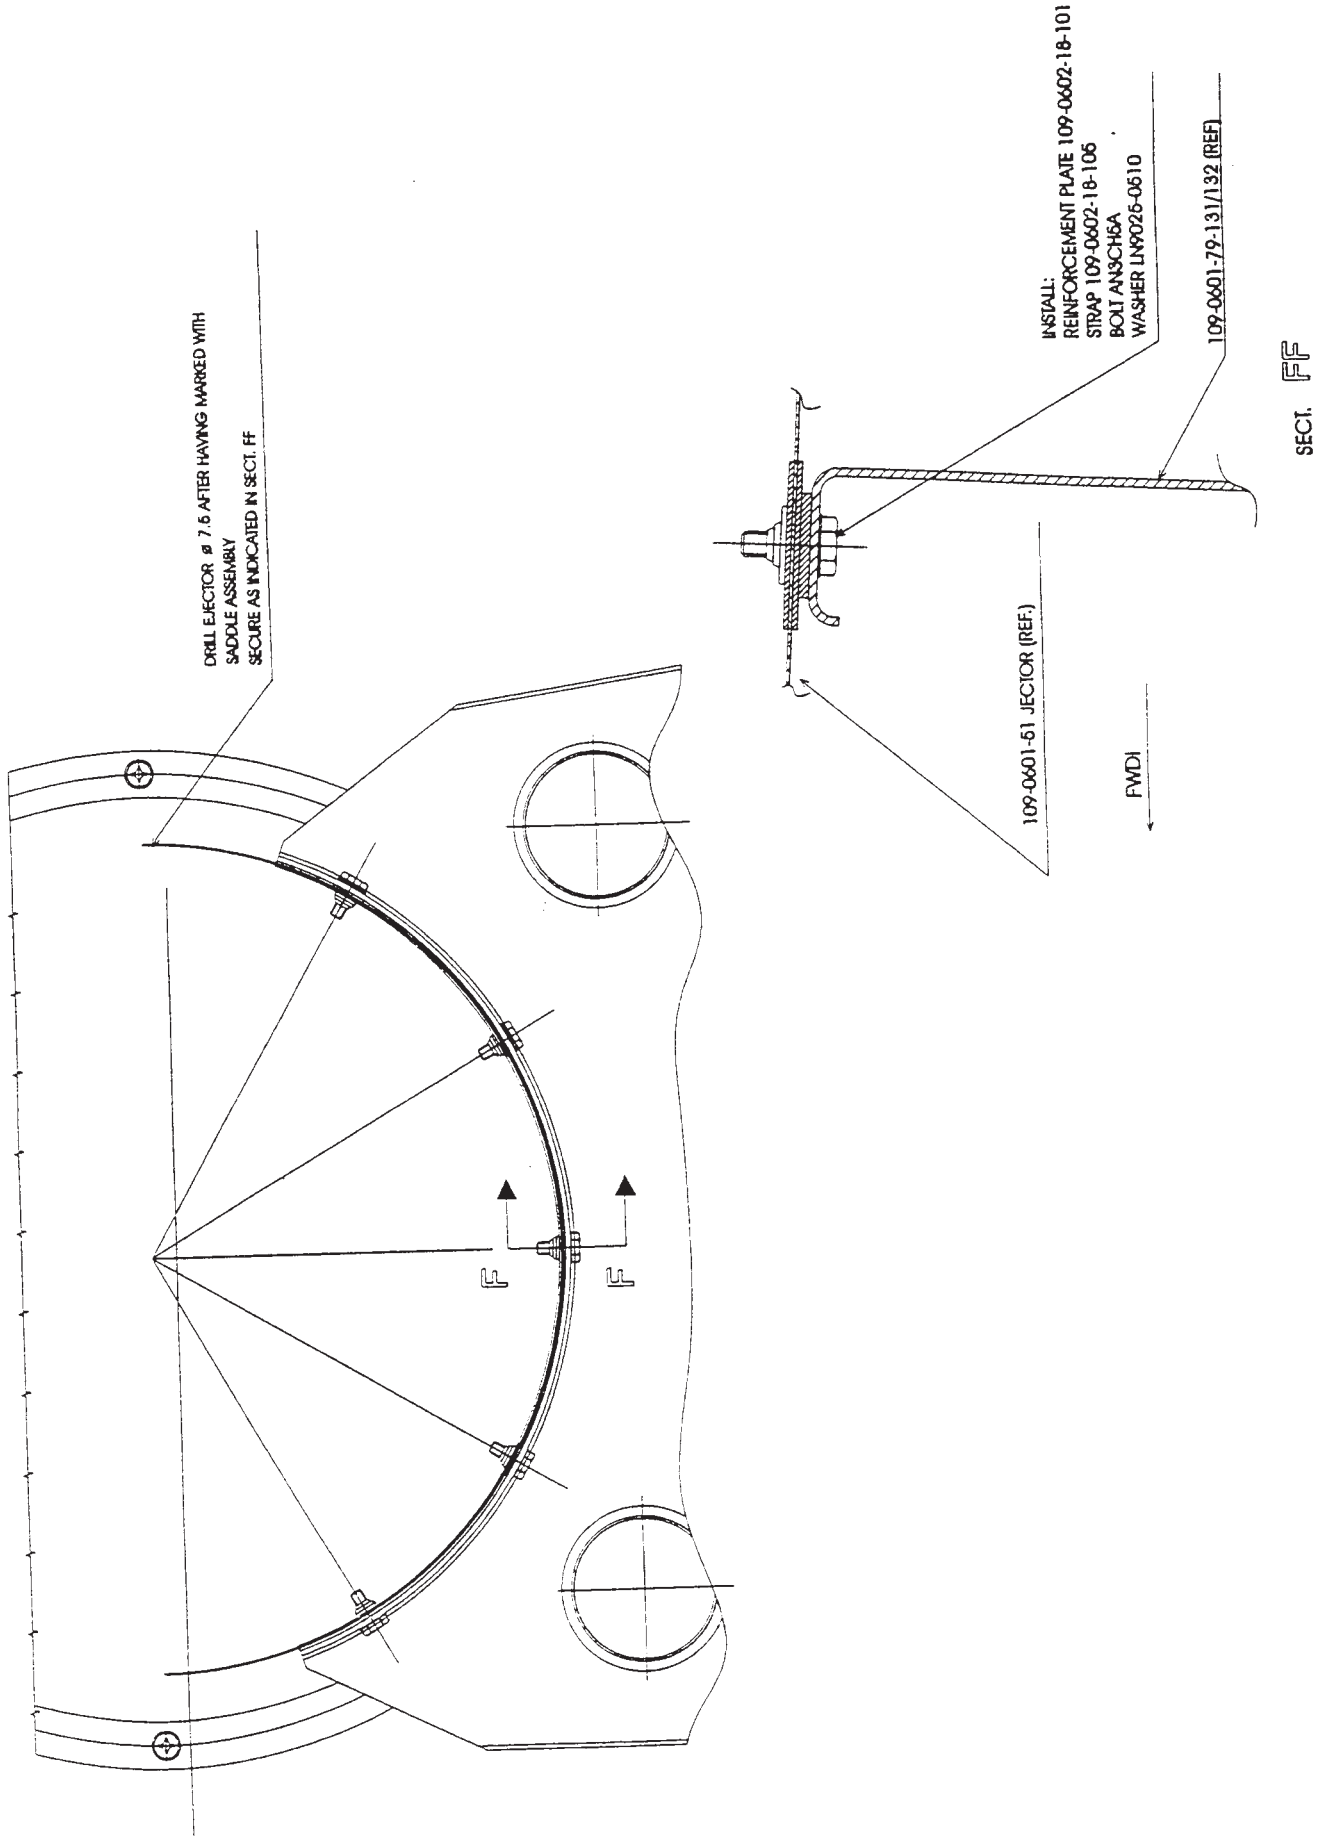

FIGURE 12
Enlarge holes of metallic strap to  $\varnothing$  7.5 mm (refer to figure 12)
- 11.5 Drill ejector  $\varnothing$  7.5 mm as indicated in figure 12.
- 11.8 Install strap P/N 109-0602-18-105 between ejector and saddle and position reinforcement plate P/N 109-0602-18-101 inside ejectors (refer to figure 12). Secure ejector to relative saddle with five (5) bolts P/N AN3CH5A and five (5) washers P/N AN960C-10L (ref figure 12)
Secure ejector to relative saddle with four (4) bolts P/N AN3CH5A and four (4) washers P/N AN960C-10L (refer to figure 12).